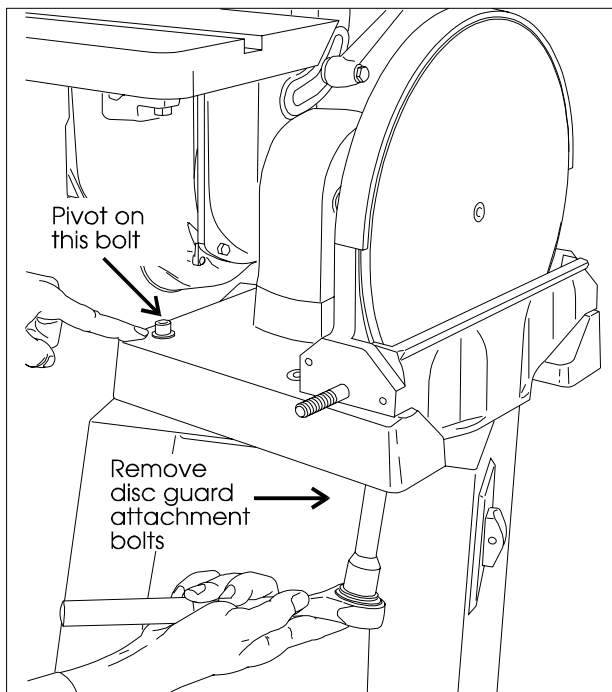

Figure 11: Rotating the machine casting to remove the disc guard bolts
5. Remove three of the base mounting bolts, then loosen the fourth bolt slightly. This allows you to rotate the machine on the machine base (See Figure 11).
6. Remove the two bolts, underneath the machine casting, that secure the disc guard to the casting (See Figure 11).